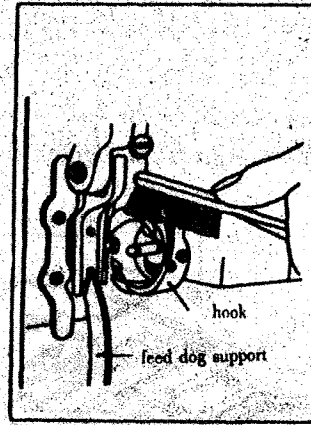

Fig. 40
2) Cleaning the rotating hook (Fig. 40)